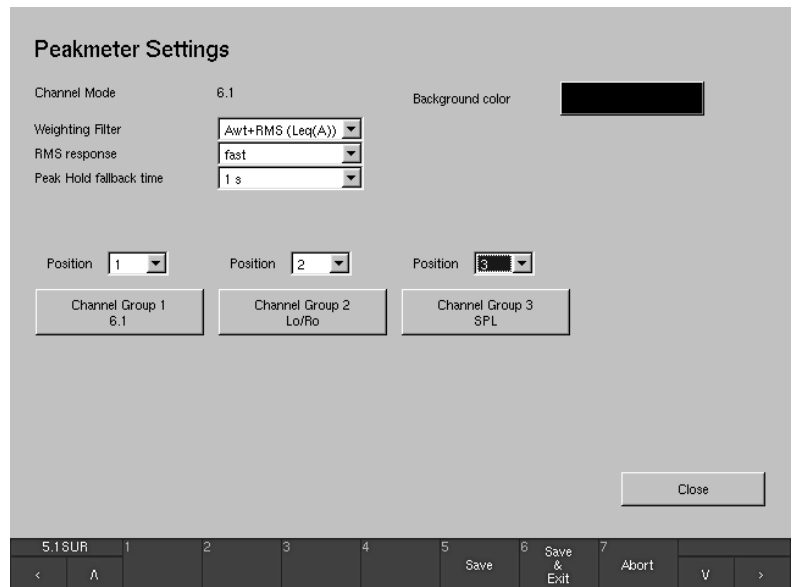

Fig. 6-34: Example: The Peakmeter Settings menu page in 6.1 Surround mode
- The **Peakmeter – Channel Group** menu pages are accessed using the Channel Group buttons of the **Peakmeter Settings** menu page (see chapter 6.5.1.6 and Figs. 6-34 to 6-36).
See chapter 6.5.1.6 and Figs. 6-34 to 6-36